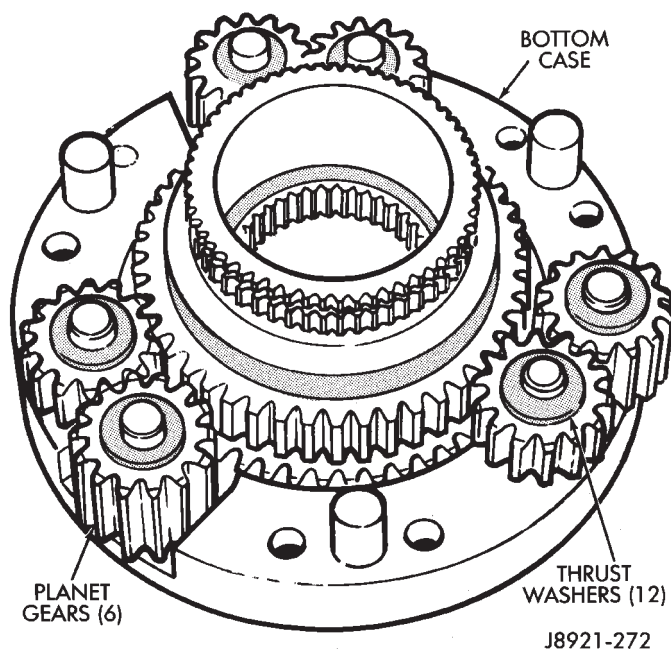

Fig. 43 Planet Gears And Thrust Washer Removal
(5) Remove thrust washers and planet gears from case pins (Fig. 43).